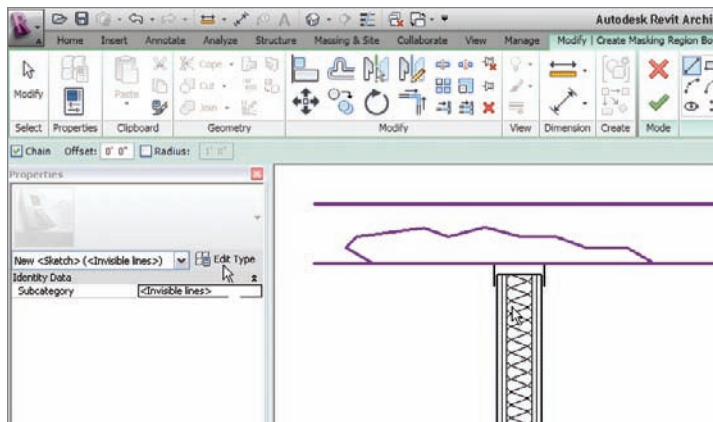

FIGURE 12.70 Click the Edit Type button.
2. In the Line Style panel, click Invisible Lines, as shown in Figure 12.70.
3. Draw a boundary, as shown in Figure 12.70, and press Esc.
4. On the Properties dialog, click the Edit Type button, as shown in Figure 12.70.